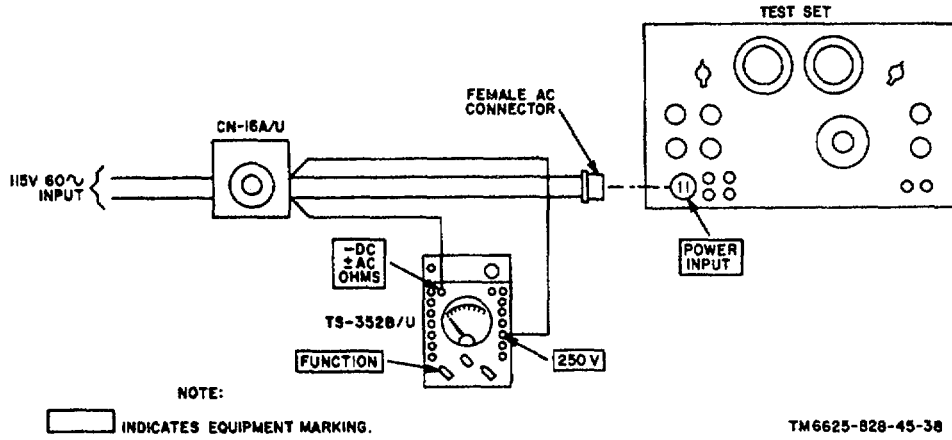

Figure 4-1. Preliminary inspection test setup.
- (1) Connect the equipment as shown in figure 4-1.